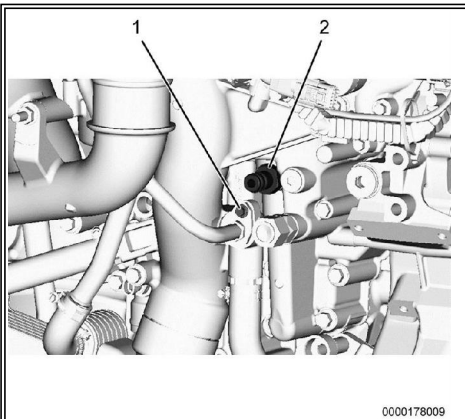

Figure 5: Adapter Assembly Fitting.
14. Remove M6 bolt (Figure 5, Item 1) from heater return tube and discard.